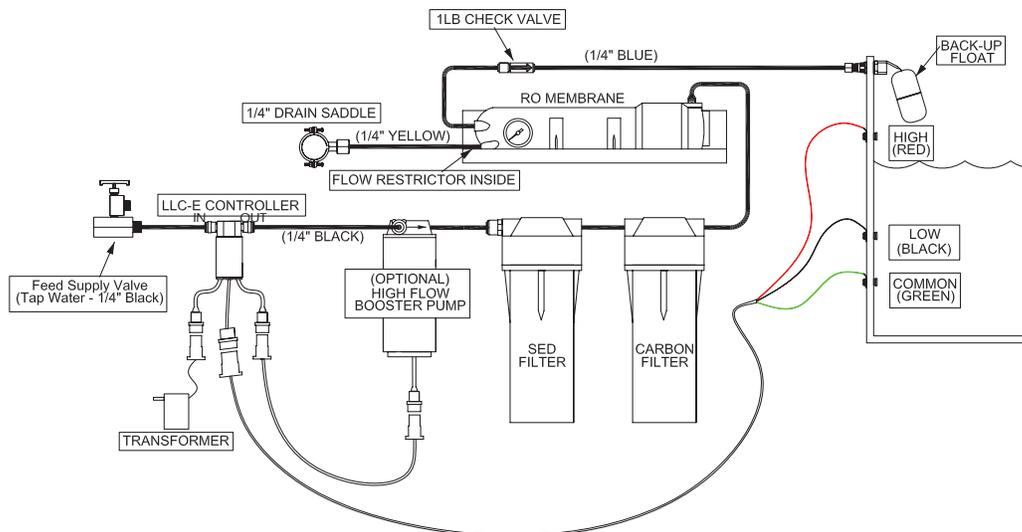

FIGURE 6: DIAGRAM INSTALLATION FOR LLC-E
2. Locate the transformer and electronic sensors and connect as shown in Fig 6. (Each line is connected to an eyelet).